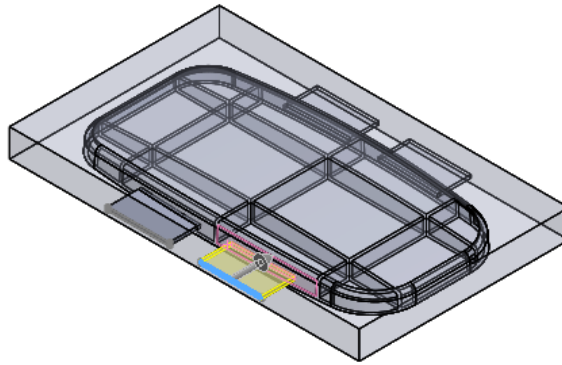

Figure 21-63 Base feature of *Insert1*
- i. Using the top-down approach, create the inserts, refer to Figures 21-63 through 21-65.
6. Extrude the sketch of each slot using contour selection up to the inner front curved face of the cover. Figure 21-63 shows the assembly with the preview of base feature being extruded using contour selection.